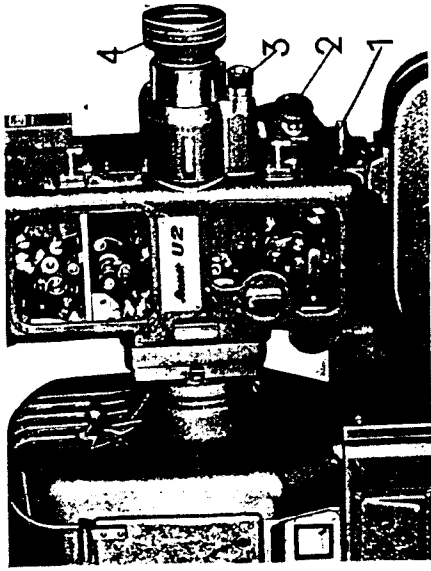
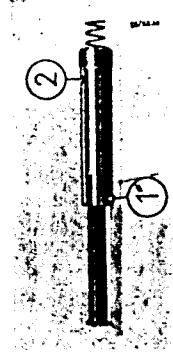

Fig. 12
Fig. 13 Oil sieve
The first oil change should take place fairly early, after say about 50 running hours, as the oil becomes dirty more quickly during the running-in period of the mechanism. The oil sieve situated at the inlet oil pump (Fig. 13) becomes clogged with fine sediment which hinders the flow of oil. The next oil change should take place after a further 100 running hours and thereafter every 200 running hours. It is of great importance that the oil always should be drained off immediately after a show has finished, whilst it is still warm and fluid. Oil change is carried out by first removing the drain plug (Fig. 12) at the front of the head (unscrew only the threaded plug, not the socket!) then taking out the oil sieve (Fig. 13) and, where no downward rake is already being employed, tilting the projector forward so that all the oil can run out. After the oil has been drained off it is recommended that the mechanism be rinsed out with flushing oil of the kind obtainable from any automobile repair shop. Oil sieve and drain plug are re-inserted for this purpose and the motor switched on for a few moments until the flushing oil becomes visible in the upper oil observation glass. This oil is then completely drained off again and the oil sieve given a thorough cleaning. This sieve must be so inserted that the circular red mark (0) points upwards. The locating pin will then come to rest in a groove in the oil pump. Make certain the locating pin is properly inserted by pressing the oil sieve well in. Finally the required quantity of BAUER projector oil is poured into the housing in the normal way. It is especially important never to add new oil to old — always change the old oil completely.